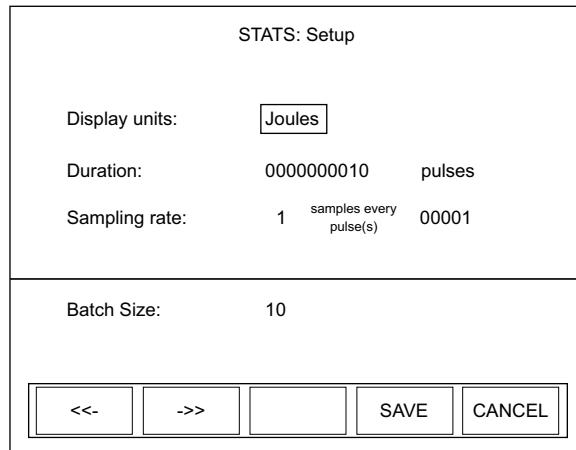

Figure 4-18. STATS: Setup (Pyroelectric Sensors - Energy)
- Pyroelectric sensor measuring *energy* (Figure 4-18)